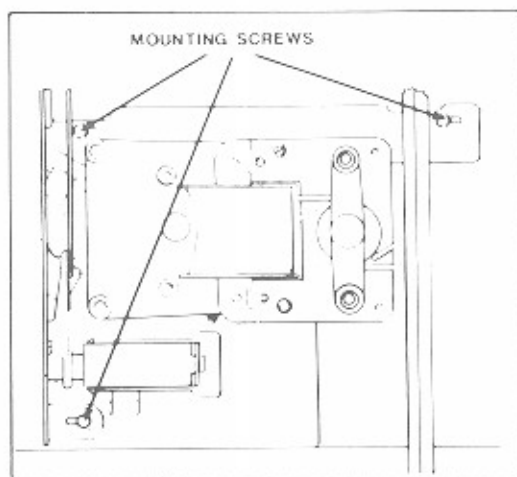

Figure 6-8. Sprag Assembly Removal
1. To remove sprag assembly, disconnect wires to the solenoid and motor, remove the three mounting screws and slide the assembly out of the right side of the mechanism (see figure 6-8).